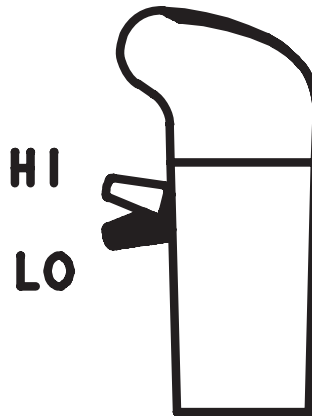

Figure 2-2
6. Make sure the Range Selector is down in the low range position as shown below in Figure 2-2.